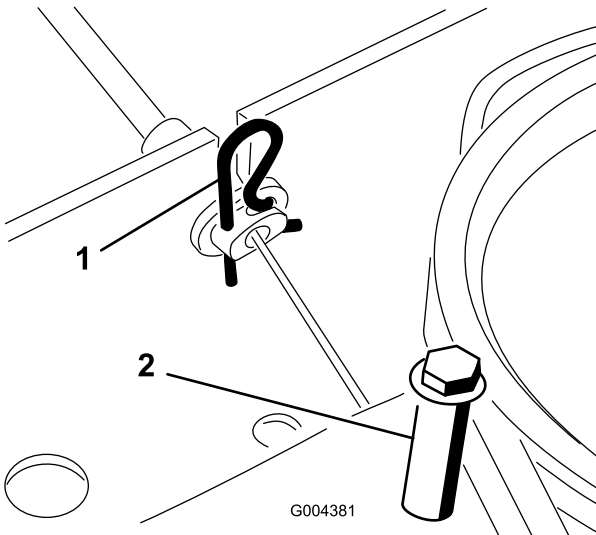

Figure 4
1. Locate the screw and spacer-style belt keeper on the tensioning idler bracket (Figure 4).
2. Use a 3/8-inch socket and ratchet to remove and discard the screw and spacer (Figure 4).